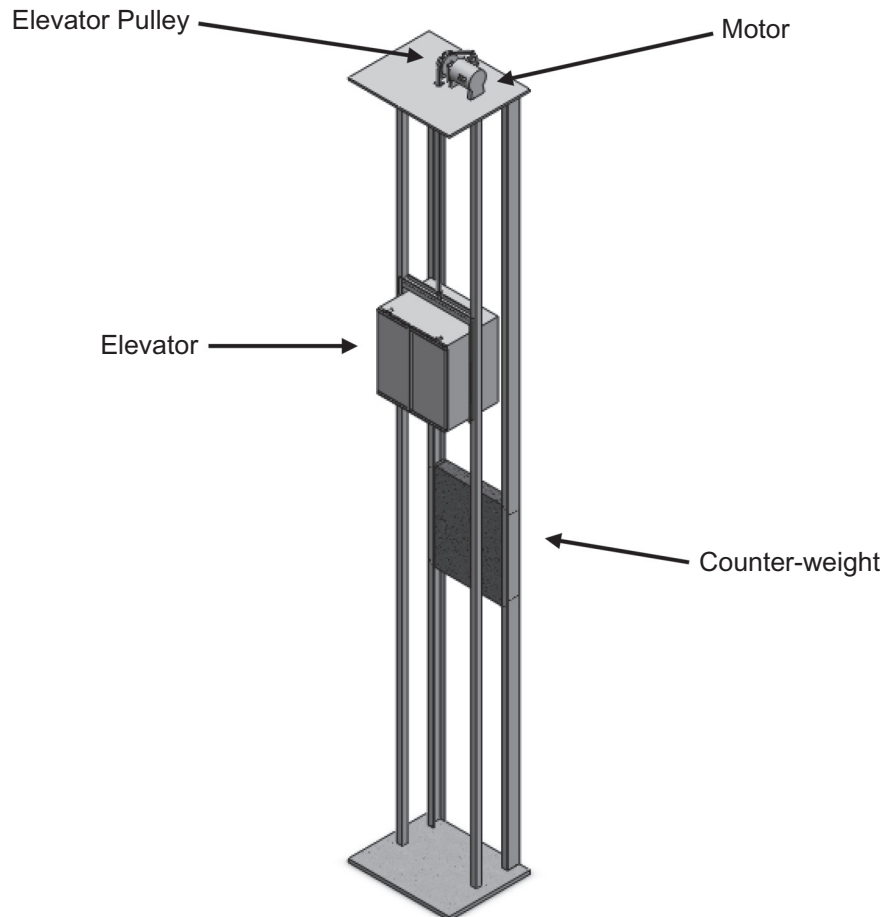

Fig. 3(a)
- 3 **Fig. 3(a)** shows an image of a prototype elevator that is used in buildings to transport people and goods between floors.